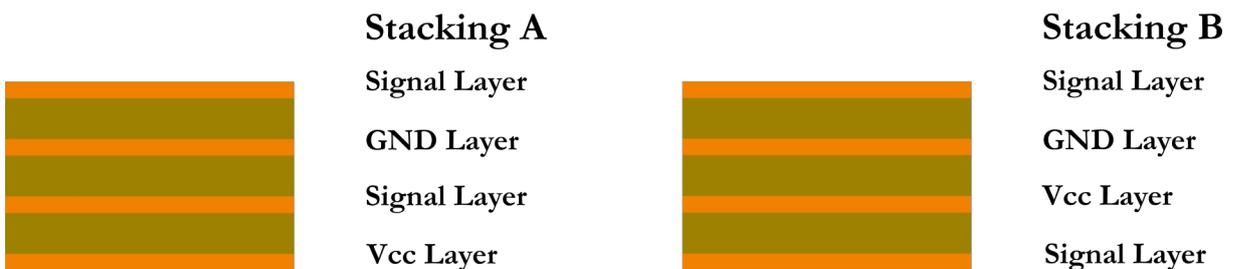

Figure 1: PCB stacking examples.
Vcc layer. What can be done to reduce the traces inductance for those signal lines that necessarily have to go far from the ICs? In this case, the solid ground layer helps again, indeed each trace has some current and the current must flow to the ground. Having a ground layer next to a trace, allows the return current path to be just next to the trace. Reducing the loop area made of the trace and the return path on the GND layer, it reduces the stray L of the trace itself. Indeed, reducing the loop area means that less magnetic field can concatenate within the loop area. What has been just said, typically leads to the PCB stacking decision of having the GND layer just underneath the signal layer as shown in Figure 1 (solution A and B). Usually, the signal layer is on the top, while the GND layer is on the inner layer. This is done to limit the trace width vs. the current rate of the trace itself. Indeed, due to thermal consideration, a trace on the inner layer will increase the temperature T faster than a similar trace on the top layer. This would also increase the resistance together with the T increase. Thus, to allow a high current rate, a signal trace on the inner layer would need to be wider or thicker than a trace on the top layer with a similar current rate.
In the following paragraph, we will describe some use cases where placing the GND layer needs some special thoughts. These cases should not be considered the only ones, but rather examples that should let the designer think twice before locating the GND layer as shown in Figure 1.
High speed means that the signal bandwidth (BW) of interest is high. This reflects the fact that the rate of voltage change is high, thus the harmonic content has high-frequency components. In the best case of a sinusoidal signal, dV/dt would be proportional to the amplitude of the signal and the signal frequency. From EMC perspective high BW means that you better try to reduce the stray inductance to limit the radiated field. While high dV/dt not necessarily means high di/dt , both would be proportional to the signal frequency. Thus, with high a BW signal, having a GND layer just underneath the signal trace is not a bad idea (Figure 1). Nevertheless, if we take a look at the PCB reference design of high-speed operational amplifiers, such as the OPA855 from Texas Instruments, we can see that the GND layer is on the bottom side.